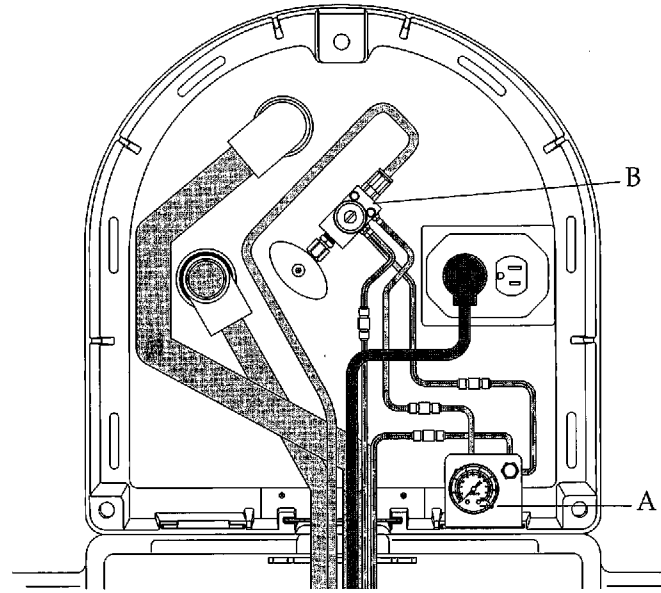

Figure 36. Connecting the air supply. (A) gauge and pre-regulator assembly; (B) air/filter regulator
4. Trim the master air and supply air and install them to the air/filter regulator in the floor box. Leave enough length for servicing and future use (see Figure 36).